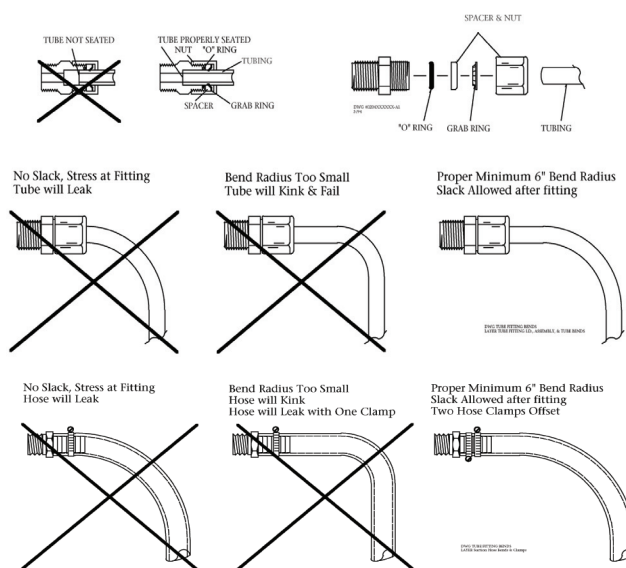

Figure 5c - Always allow slack in all tube and hose lines.
CAUTION (Refer to fig. 5c, pg 5-5): Always allow slack in all tube and hose lines. Never cause the tube or hose to immediately bend from the fitting. Allow the line to enter or leave from the fitting in a straight manner for several inches to ensure proper connection, to relieve stress to the fitting and tube or hose, and to allow ease of detachment and reattachment during maintenance or repair.
- Ensure all High Pressure Hoses supplied for the RO Pressure Vessel assembly have sufficient slack and are not pulled tight into a sharp or immediate bend. (Refer to fig. 5c)